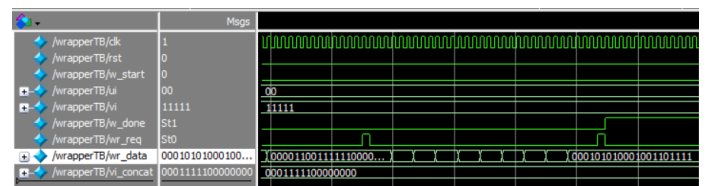

Fig. 15 Third and fourth simulation results
- $e^{0.9687} = 00010.1010001001101111$ (figs 15, 16)